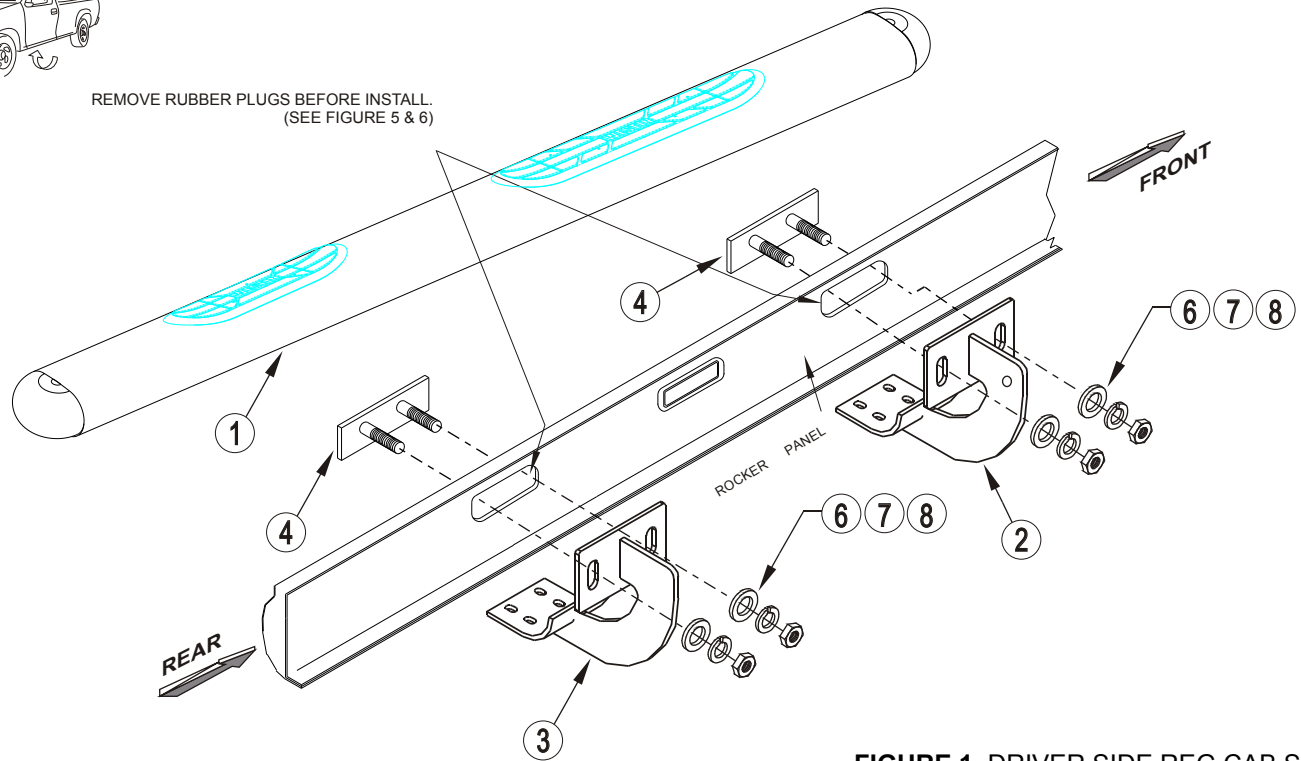

FIGURE 1 DRIVER SIDE REG CAB SHOWN
- STEP 2. Remove existing plugs from underside of cab as shown. **SEE FIGURE 1.**
- STEP 3. Insert bolt plates as shown. **SEE FIGURES 1 AND 5.**